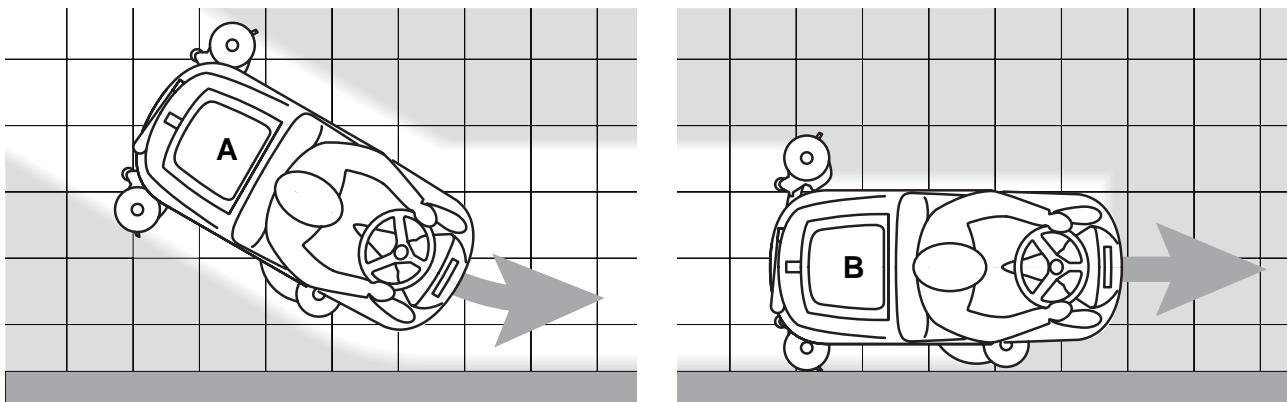

Figure 4
3. If necessary, to reduce the noise, turn on the mute function by pressing the switch (55).
*For correct scrubbing/drying of floors at the sides of the walls, Clarke suggests to go near the walls with the right side of the machine as shown in figure 4.*